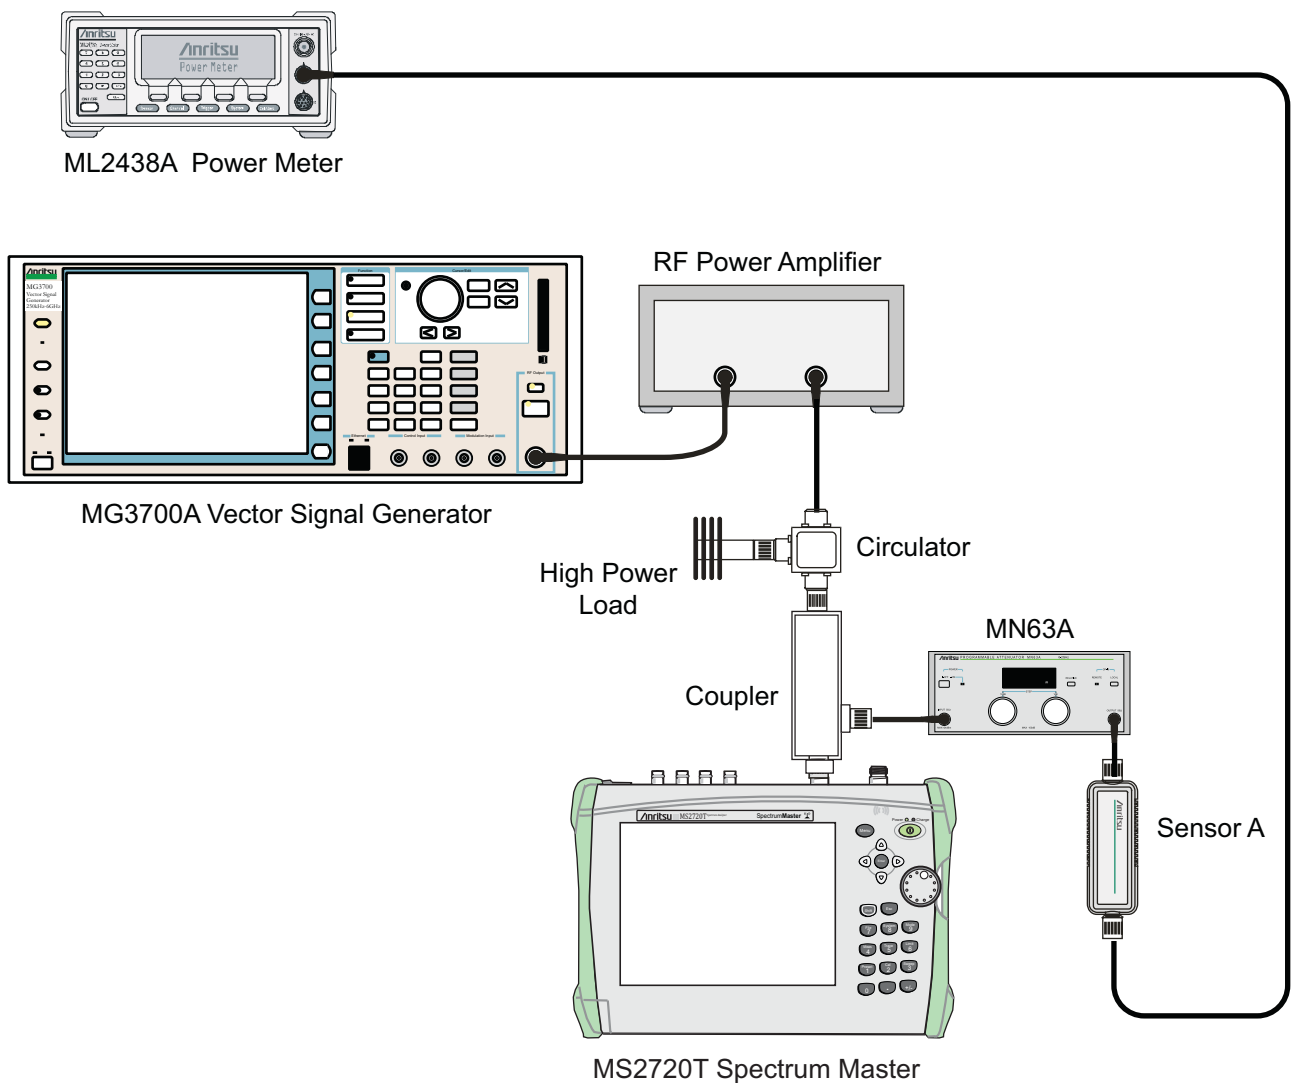

Figure 3-6. WCDMA/HSDPA Signal Analyzer, Test Setup for Spectrum Master
33. Disconnect the coupler from Sensor B and connect the coupler to the MS2720T, refer to Figure 3-6 on page 3-15.